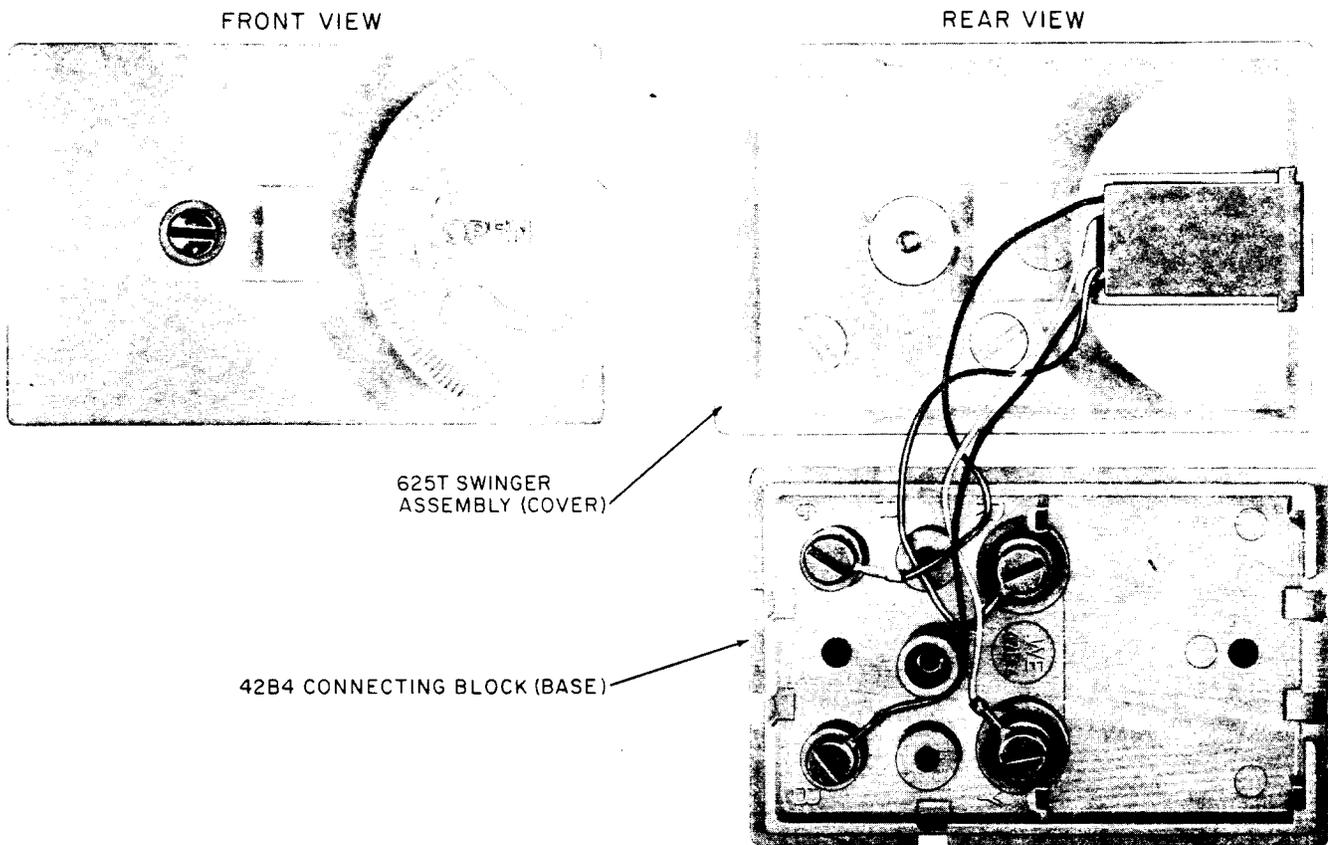

Fig. 11—625SA Connecting Block
#### I. 625SA Connecting Block (Fig. 11)
2.11 The 625SA connecting block (Fig. 11) consists of a 42B4 connecting block (base), 625T swinger assembly (cover), and jack. It is intended for surface mounting in high humidity and infested areas. The spade-tipped jack leads provide the termination to the connecting block screw terminals. It is available in ivory (-50) and brown (-54).
(c) **Spring Cover-Type:** Install the flush-mounted swingers with the point of the spring-loaded cover up (Fig. 10). Install the surface-mounted swingers in the horizontal position so the OPEN label is situated for correct reading (Fig. 11). Locate connecting block where convenient for each of connecting and disconnecting the miniplug.
**3.10 625SA Connecting Block:** Mount the 42B4 connecting block (base) on the wall (preferred) or baseboard. Terminate station wire and dress the 625T swinger assembly (cover) jack leads as shown in Fig. 11.